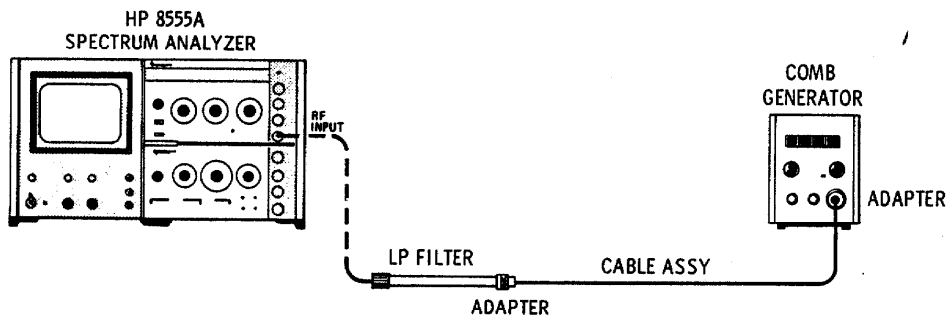

Figure 4-11. Dial Accuracy Test Setup
1. Connect the equipment as shown in Figure 4-11. Make the following control settings: